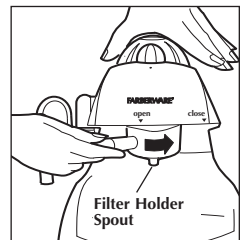

Figure 4
**NOTE: With one hand on the Pressure Cap, push the Filter Holder firmly to the right to lock in position. The Handle will be locked when it is positioned under the arrow marked “close” (see Figure 4).**